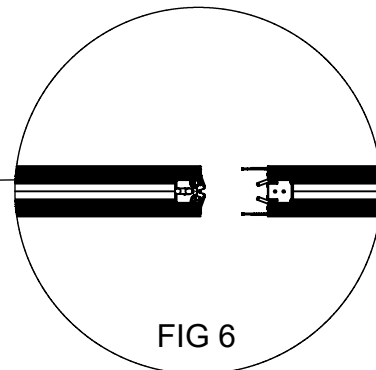

FIG 6
5. Suspend the next fixture segment and connect to the previous segment by sliding the segments together and fastening the two hex nuts (See FIG 6 & 7)